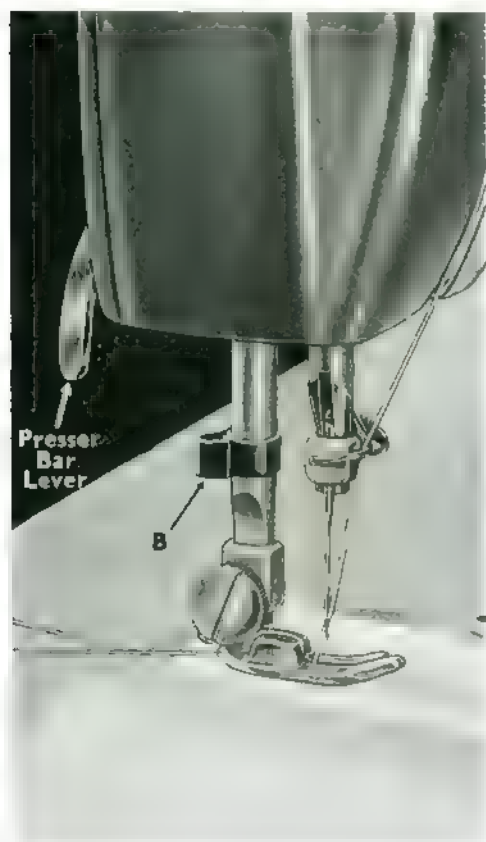

FIG. 16
2. Place both cottons between the toes of the foot and draw towards the rear of the machine (See Fig. 16).
3. Grasp both threads firmly and sever them close to the material on the thread cutter B (Fig. 16) above the presser foot.